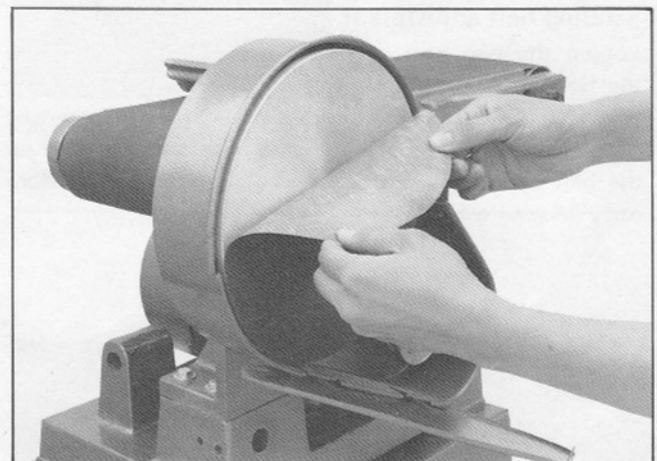

Fig. 11
2. Tear off the old sanding paper, clean off the glue remain on the disc and put on the new sanding paper as Fig. 11.